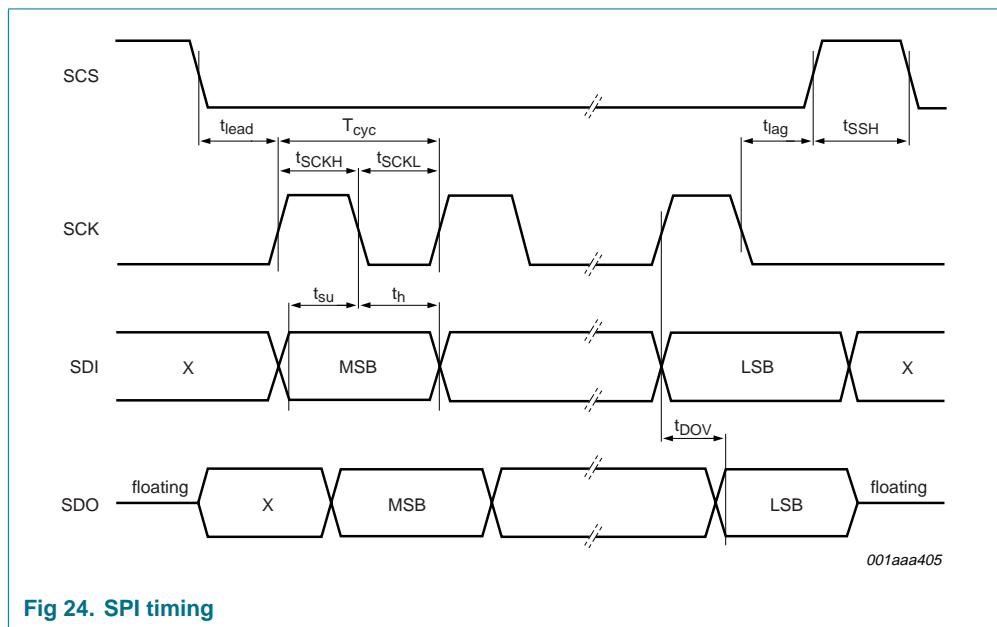
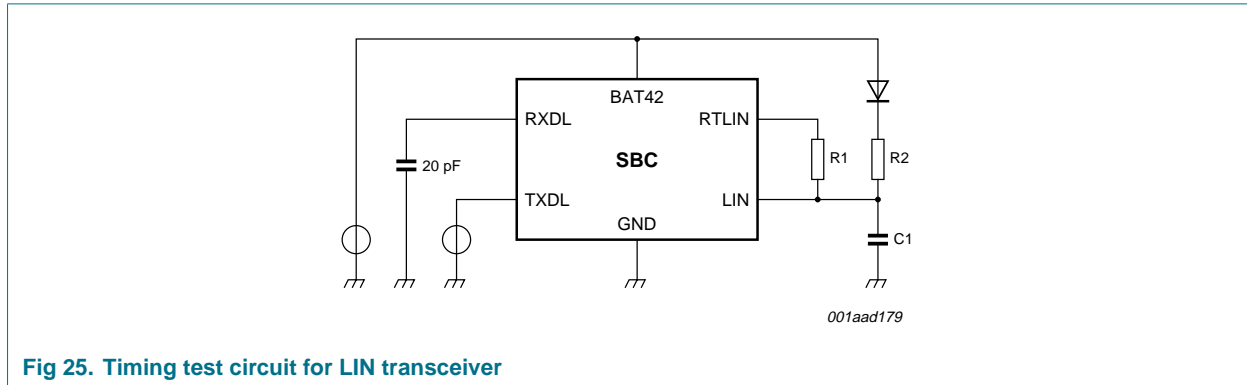
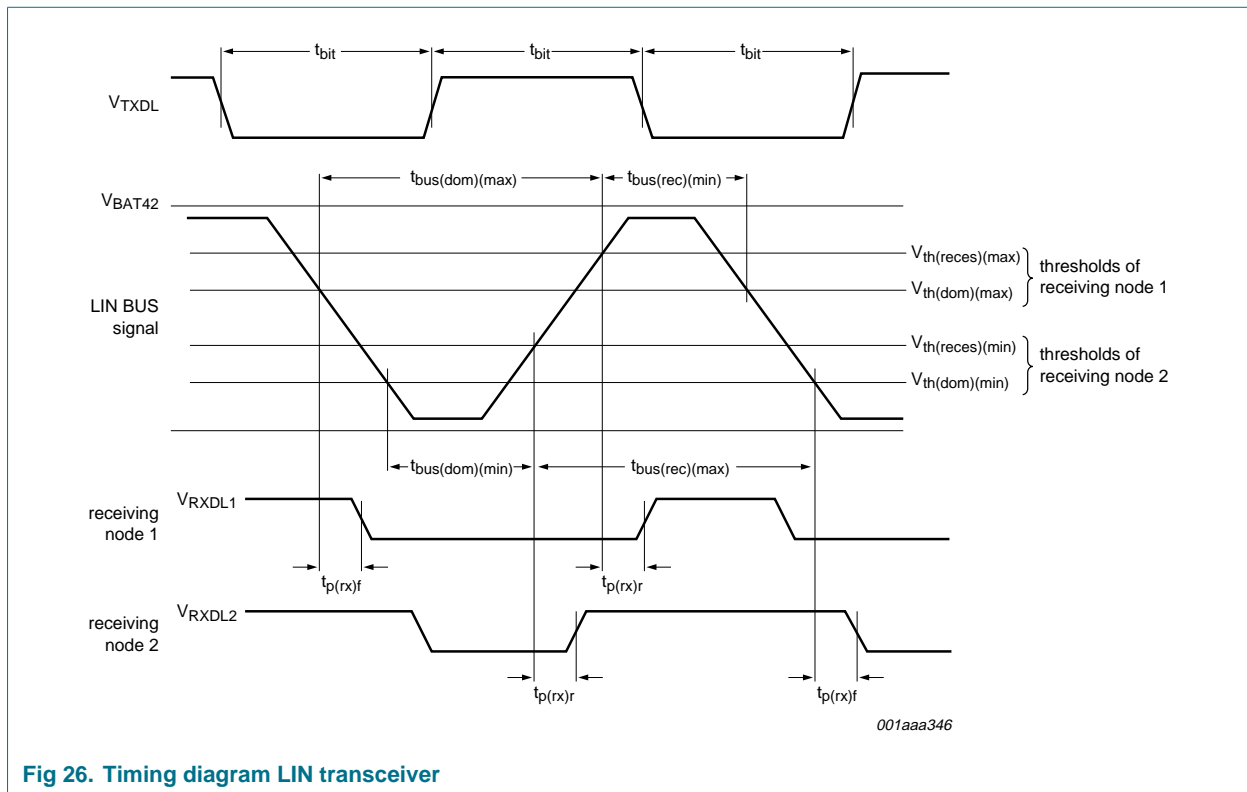

Fig 24. SPI timing
Fig 25. Timing test circuit for LIN transceiver
Fig 26. Timing diagram LIN transceiver
Serial peripheral interface timing; pins SCS, SCK, SDI and SDO (see Figure 24)^[2]
- [3] t_{bit} = selected bit time, depends on LSC bit; 50 μs or 96 μs (20 kbit/s or 10.4 kbit/s respectively); bus load conditions ($R_1/R_2/C_1$): 1 k Ω /1 k Ω /10 nF; 1 k Ω /2 k Ω /6.8 nF; 1 k Ω /open/1 nF; see Figure 25 and Figure 26.
Modifications:	<ul style="list-style-type: none"> The format of this data sheet has been redesigned to comply with the new identity guidelines of NXP Semiconductors. Legal texts have been adapted to the new company name where appropriate. Section 6: symbols corrected; replaced symbol $t_{RSTN(ext)}$ with $t_{RSTN(CLT)}$ and with $t_{RSTN(CTH)}$; replaced t_{INTNH} with t_{INTN} Table 11: table note added Table 25: updated pin SDO conditions and pin LIN, parameter I_{LIL} value Figure 24 and Figure 26 updated Soldering information updated Added Test information, see Section 11 “Test information” Added Figure 23 Added a second condition row to I_{LIH} in Table 25 Changed in Table note [2] of Table 26 “V_{BAT14}” to “V_{BAT42}”